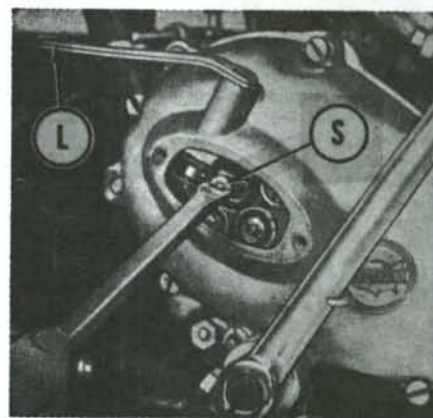

Fig. A2-3—Clutch is adjusted at screw (S). Refer to text.
CLUTCH. The clutch, located on the right end of the transmission input shaft, is of multiple disc wet type. Adjustment is accomplished after removing small cover as shown in Fig. A2-3. The center adjusting screw (S) should be adjusted to provide 2-3MM (3/32-¼ in.) free play at end of lever (L). The clutch cable should be adjusted to just take up excessive play in controls